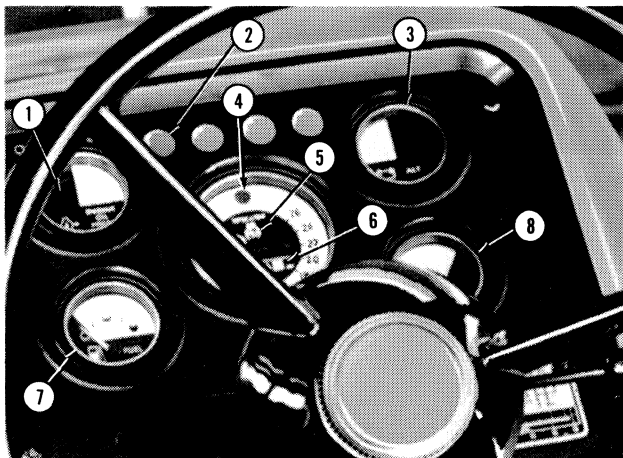

Figure 1
The engine oil pressure warning light (1) Figure 1, illuminates when:
The air cleaner restriction indicator light (2), Figure 1, illuminates after the key-starter switch is in the run position and engine is not running or when the air cleaner requires service. Service the air cleaner if the light illuminates while the engine is running.
The alternator warning light (3), Figure 1, illuminates when the alternator is not supplying enough current to meet the tractor electrical requirements. The light should illuminate when the key is turned to the "run" position and extinguish while the engine is running. If the light illuminates while the engine is running, stop the engine and investigate the cause.
The headlight high beam indicator light (4), Figure 1, illuminates when the headlight high beams are on.
The tachometer (5), Figure 1, indicates engine speed in revolutions per minute (rpm). Use the tachometer to determine ground and power take-off speeds.
The hour meter (6), Figure 1, records engine hours at 1540 engine rpm. Engine speeds faster than 1540 rpm record hours faster than clock hours while engine speeds slower than 1540 rpm record hours slower than clock hours.
The fuel gauge needle (7), Figure 1, indicates the fuel level in the tank(s).
The engine temperature gauge (8), Figure 1, indicates the temperature of the engine coolant. The coolant is at normal operating temperature when the needle is in the white zone and above normal operating temperature when the needle is in the red zone.